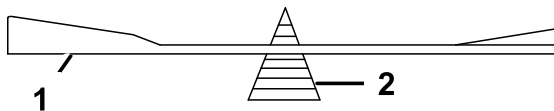

Figure 102
2. Check the balance of the blade by putting it on a blade balancer (Figure 102).